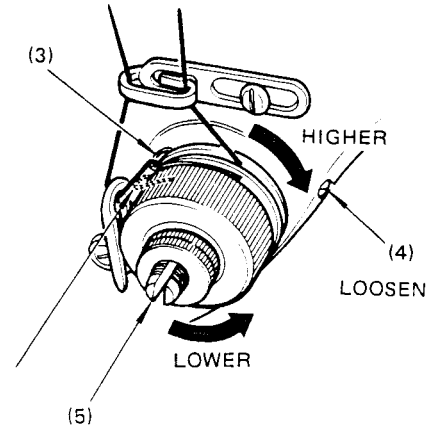

Fig. 7
Turn machine pulley over toward you slowly. When take-up lever begins to rise, check spring (3), Fig. 7, makes a slight dip and a return to its higher position. Later, as take-up lever approaches top of stroke, check spring (3) should be drawn all the way down; setting the stitch. As lever descends, check spring (3) returns to rest.
Loosen screw (4), Fig. 7. Turn stud (5), Fig. 7 (at the same time turning entire tension assembly) either over toward left to lower the check spring's resting position and decrease its movement, or over toward right to raise the resting position and increase its movement. Securely tighten set screw (4).